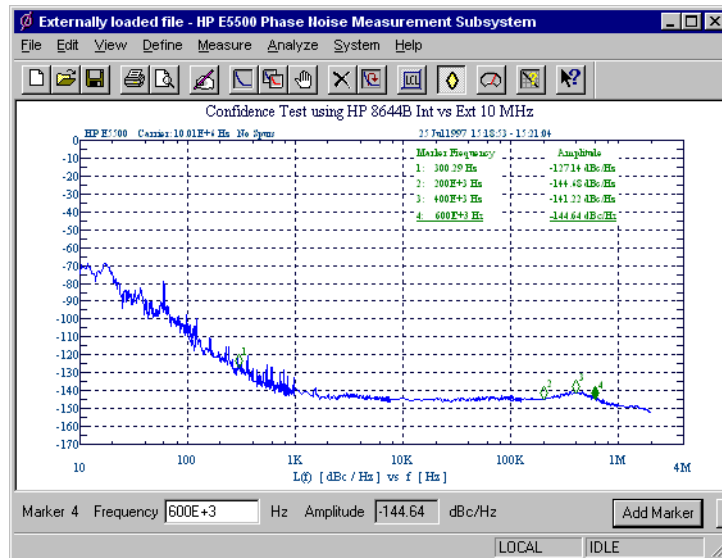

Figure 15-9 Graph Without Spurs
- 3 The Graph will be displayed without spurs (Figure 15-9). To re-display the spurs, check **Spurs** in the **Display Preferences** dialog box.